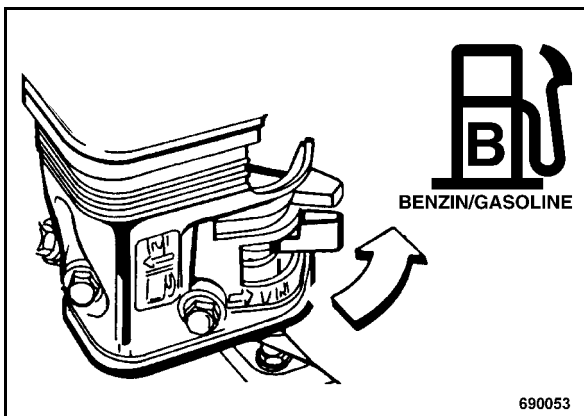

Fig. 16
- Open the fuel cock (Fig. 16) by turning in direction of arrow to the end stop.